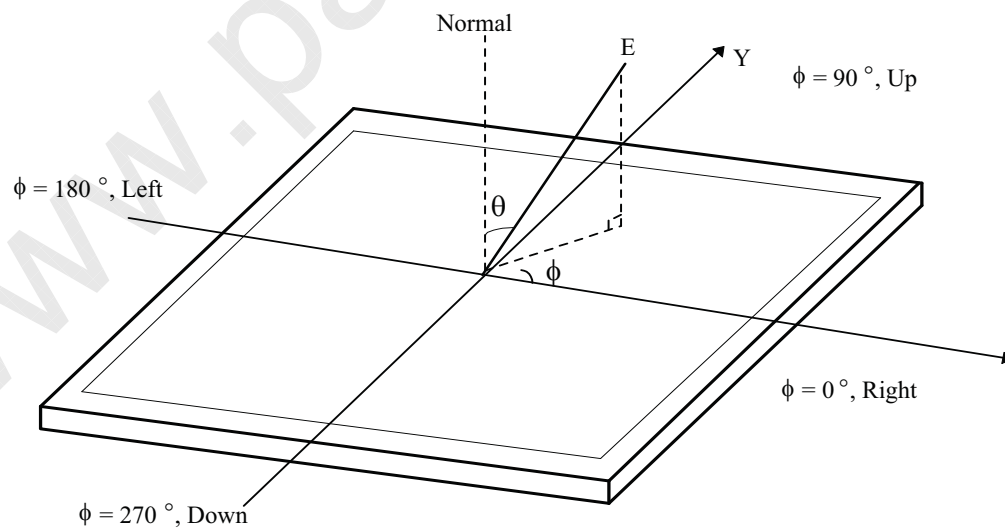

FIG. 5 Viewing Angle
7. Viewing angle is the angle at which the contrast ratio is greater than 10. The angles are determined for the horizontal or x axis and the vertical or y axis with respect to the z axis which is normal to the LCD module surface. For more information, see the FIG. 5.